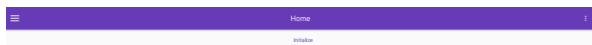

Figure 3 Initialization Interface
- 3) The initialization interface is displayed, as shown in following figure 3.